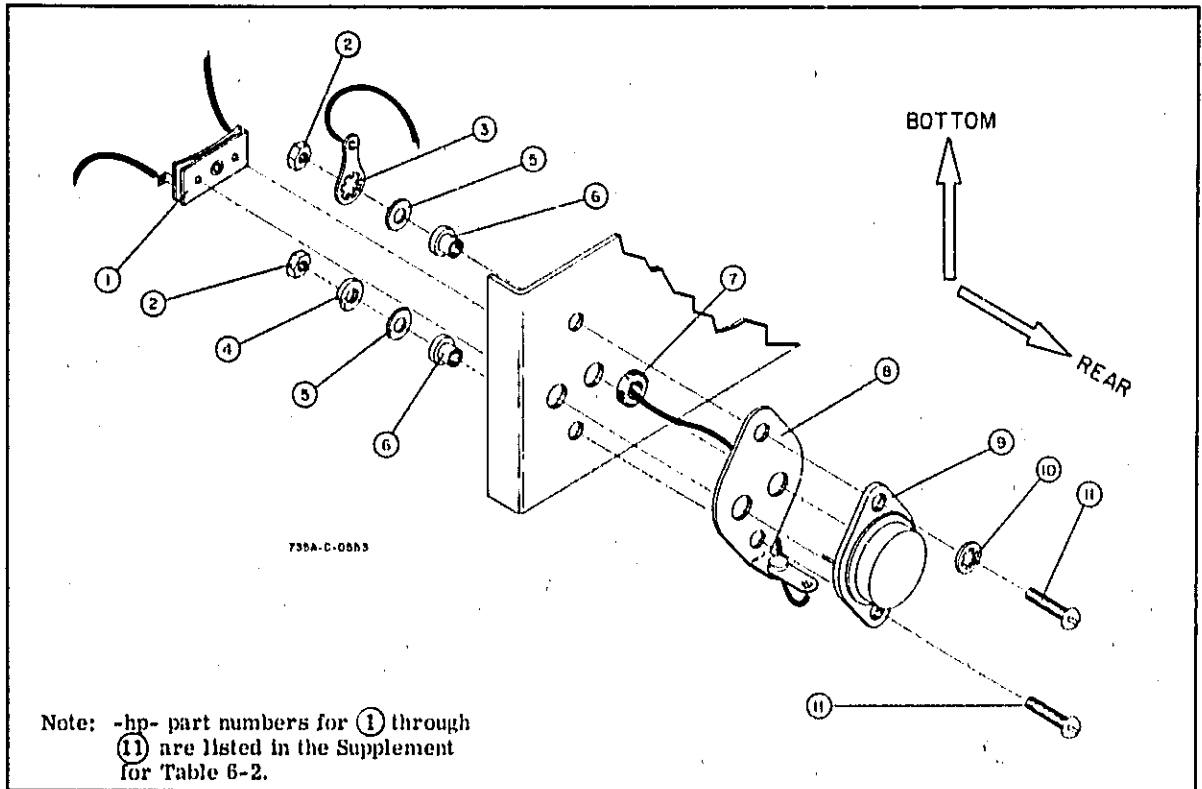

Figure 5-5. Transistor Mounting
- d. Use the reverse order of this procedure for replacement of transistor. (See Figure 5-5 for order of assembly.)